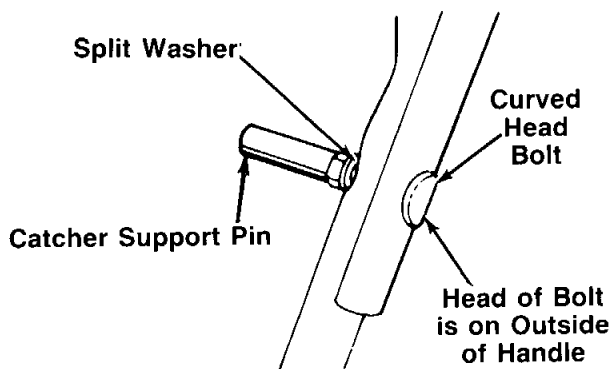

FIGURE 2.
2. Secure the left hand side of upper handle using the curved head bolt, split washer and catcher support pin as shown in figure 2.